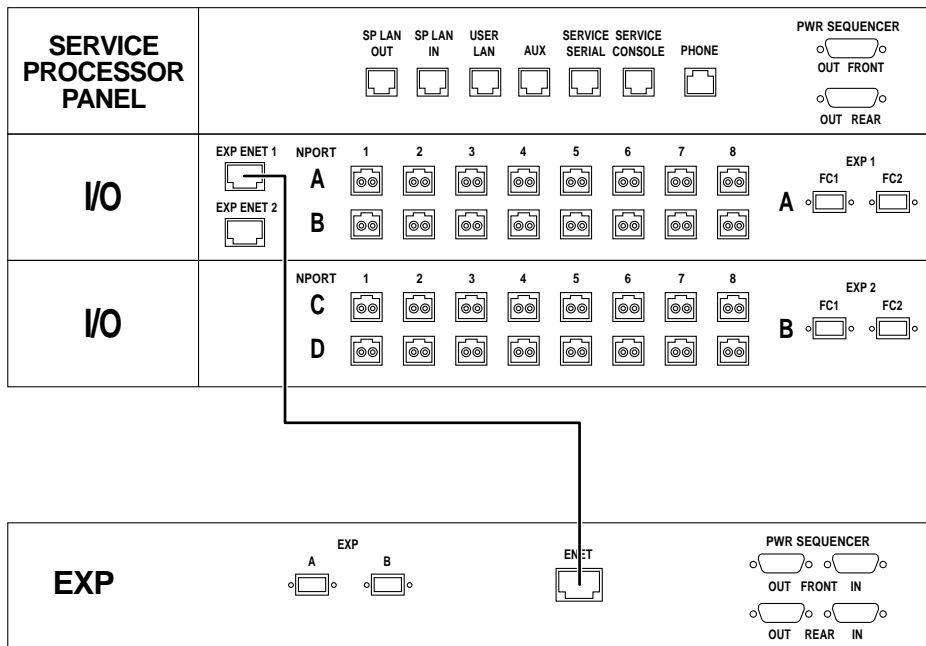

**FIGURE 2-9** FC Cabling Between the Base Cabinet and an Expansion Cabinet
To connect an expansion cabinet, connect redundant Fibre Channel (FC) cables (part number 537-1060-01) as follows (see FIGURE 2-9):